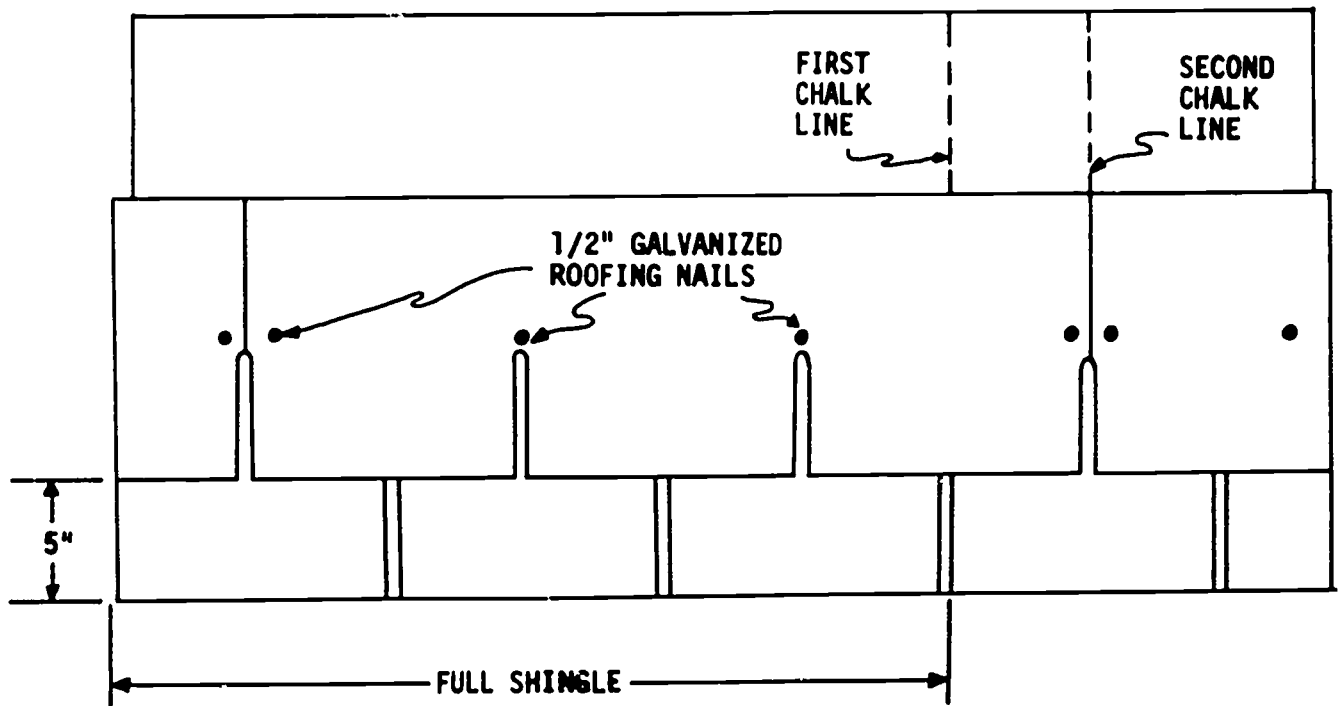

Fig. 107-2. First Two Courses of Shingles laid 5" to the Weather
8. Explain how shingles should be nailed: place the nails as shown in Fig. 107-2. Instruct students *not* to drive nails into the 2" overhang along the left end.
10. The second course of shingles is started 6" to the right of the first course; the second chalkline is the guide. Lay one full shingle to the left. Then cut pieces to fit at each end. *Cut both pieces from the remainder of the shingle cut for the first course.* See Fig. 107-2.